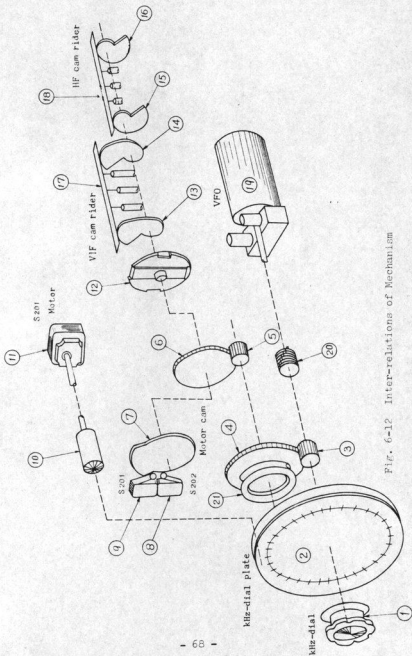
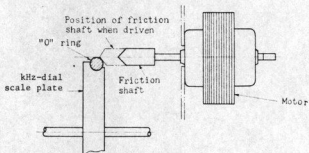

Fig. 6-12 Inter-relationships of Mechanism
Fig. 6-13
This mechanism drives the VFO and the cam rider interlocking with the kHz-dial. See Fig. 6-12. ① is the kHz-dial knob. On the same shaft of ① are kHz-dial scale plate ②, gear ③, ten-turn stopper ⑩ and VFO ⑪. The rotation of the kHz-dial is connected to the shaft of cams ⑬, ⑭, ⑮ and ⑯, all coupled by coupling ⑫, via gears ④, ⑤ and ⑥. The rotation also produces the rotation of motor cam ⑦ at the same time, with a gear ratio of 1: 11. Ten revolutions of ① displaces cam riders ⑰ and ⑱ by 25.4 mm through cams ⑬, ⑭, ⑮ and ⑯. Thus the core connected to the cam riders is moved in and out thereby changing the inductance of the variable pitch coil. The VFO frequency 3.455 MHz - 2.455 MHz changes linearly through the ten rotations of ①,
In Fig. 6-12, ① is the motor and ② is the friction shaft connected to the motor shaft. When the motor starts rotating, the motor shaft projects as shown in Fig. 6-13 to make the rollet at the friction shaft tip to contact with the "0" ring fringe, thus producing the kHz-dial rotation.
To prevent the kHz-dial from colliding with the stopper at the end of the dial, a stop mechanism using microswitches ⑧ and ⑨ and cam ⑦ is provided. S201 and S202 in Fig. 6-12 are the microswitches. When microswitch ⑧ (S202) or ⑨ (S201) is turned off by means of cam ⑦, the motor cannot be rotated in the same direction even though the "AUTO" button is pushed. It will rotate only when the button is pushed in the reverse direction.